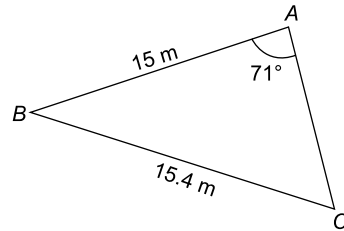

Figure RT1.4
5. A triangular plot of land ABC is shown in Figure RT1.4. Solve the triangle and determine its area